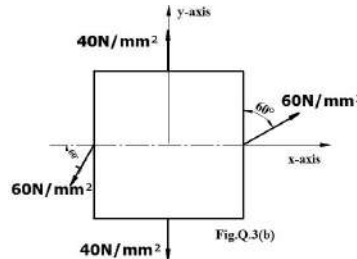

Figure 13
11. A point in strained material is subjected to the stresses as shown in **Figure 13**. Locate the principal planes and evaluate the principal stresses.